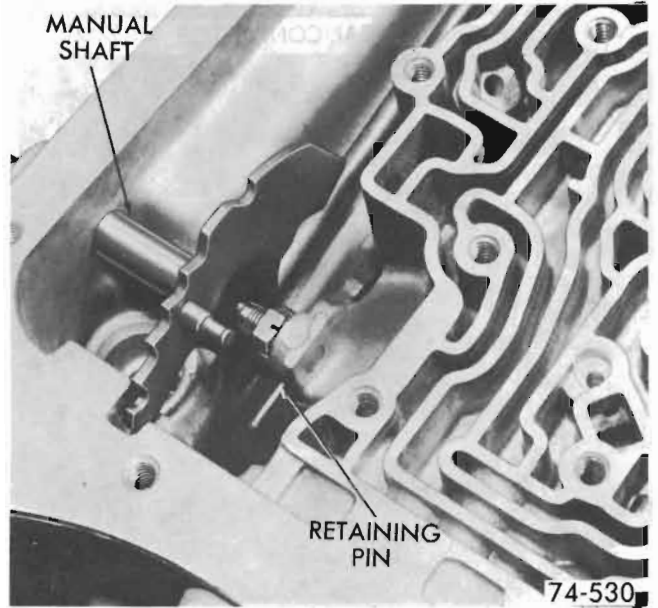

Figure 76-74
b. Remove manual shaft retaining pin from case. See Figure 76-74.